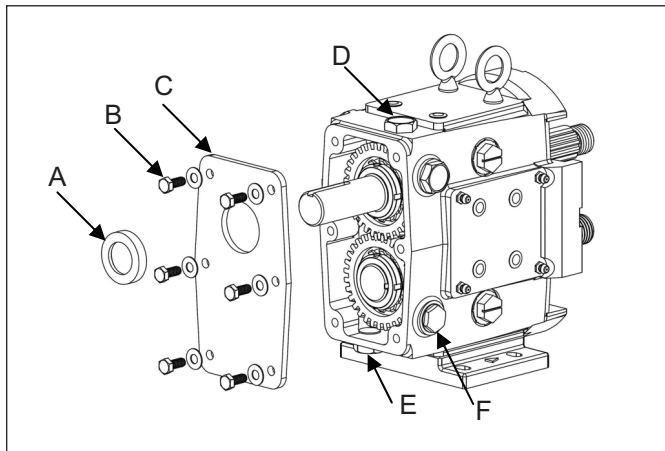

Figure 38. Gear Case Disassembly (Gear Case Cover)
1. Remove the pump head as described on page 21 (Pump Disassembly). Remove the bottom oil plug and drain the oil from the gear case (remove oil fill plug for faster drain). Remove the six hex head cap screws and washers from the gear case cover and slide the cover off the drive shaft (Figure 38). If the cover is stuck, use a soft mallet to tap around the edges until it breaks free. Using a straight edge remove the liquid gasket used to seal the cover to the gear case. Remove and discard the oil seal from the cover using an arbor press.